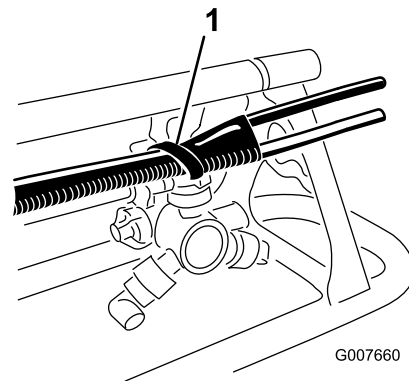

Figure 8
- B. Align the end of the hose with the end of the upper support pole. Use a plastic tie to secure the foam hose to the brace using the holes in the brace (Figure 8).